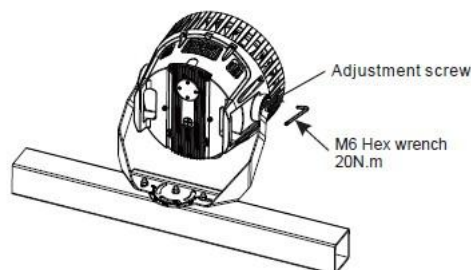

Figure 8
1. Use an M6 hex wrench (not provided) to loosen the dial adjustment screws (Figure 8).